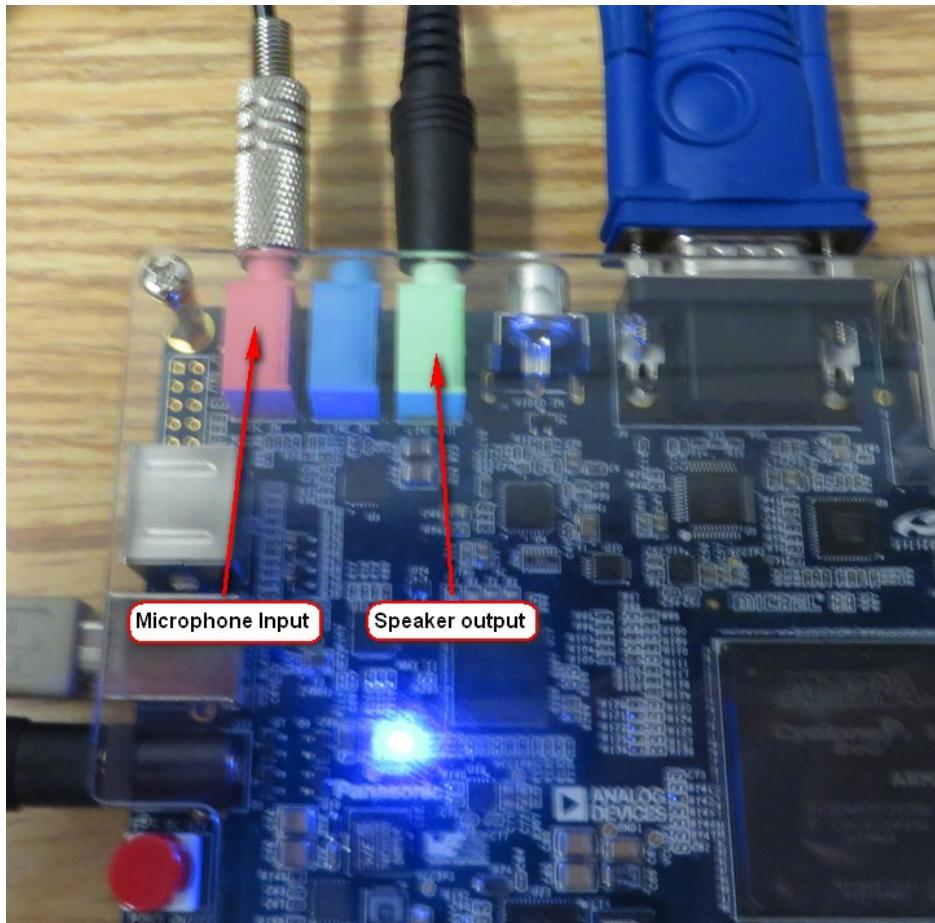

Figure 114 - Speaker and microphone connections
- Connect a microphone to the audio input connector, see **Figure 114**.
- Connect a speaker to the audio output connector, see **Figure 114**.